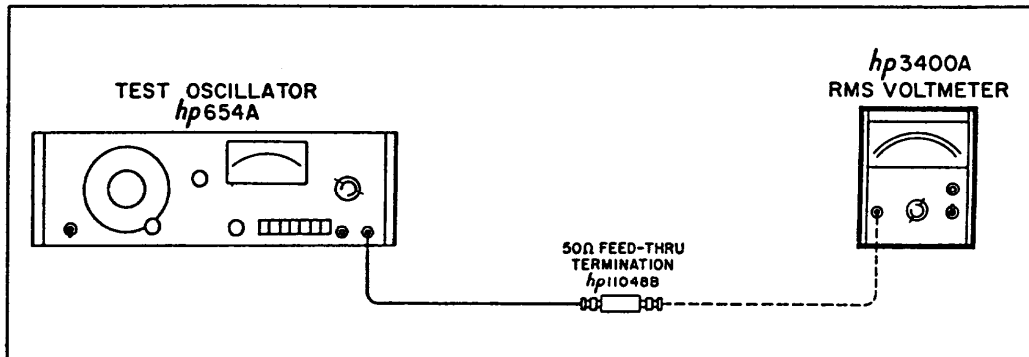

Figure 5-2. Frequency Response Test Setup
- a. Connect the test setup shown in Figure 5-2.